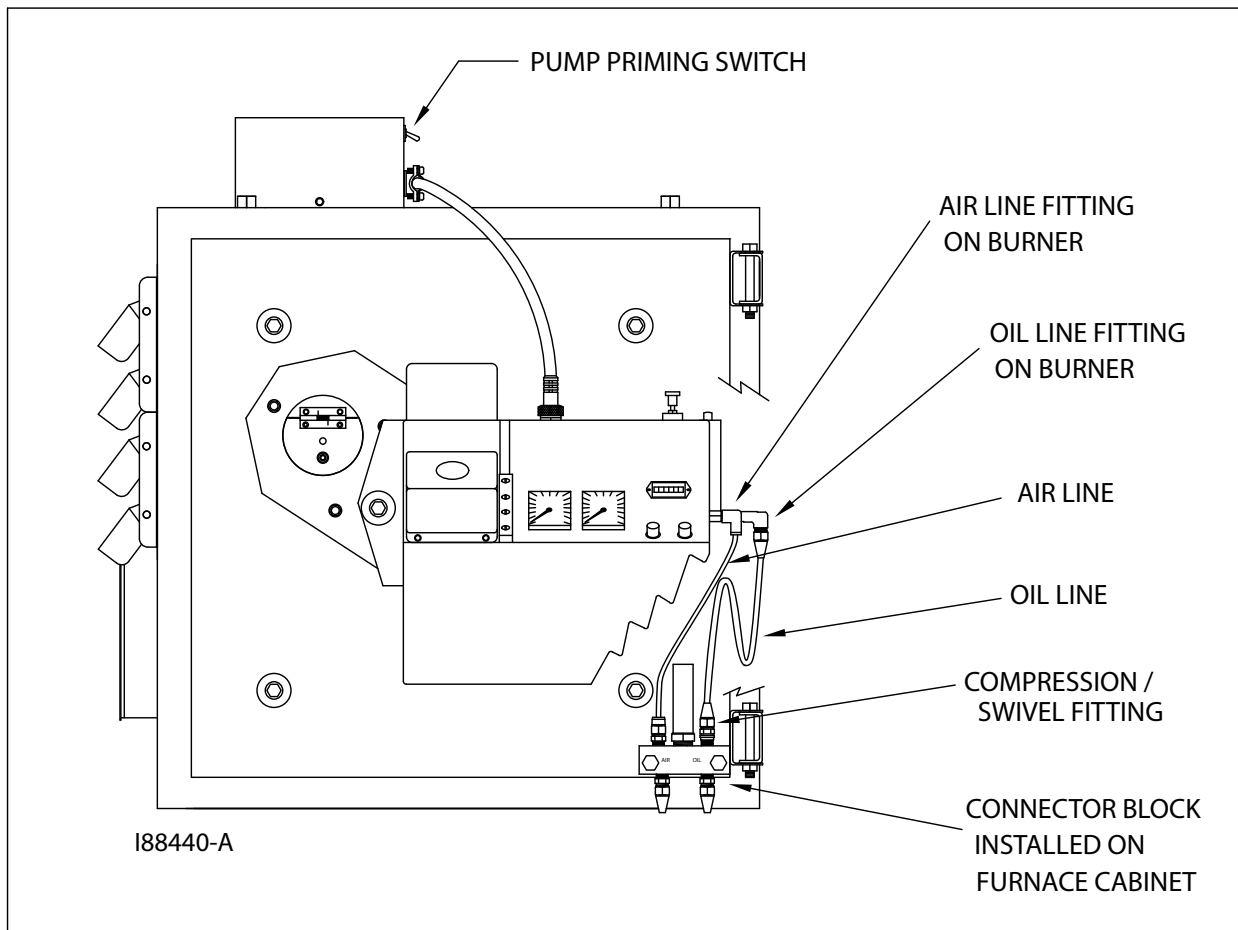

Figure 3M - Installation of Connector Block, Oil Line and Air Line (Front View)
NOTE: You may also check the positioning of the oil line according to Figure 3M which provides a larger front view of the connector block assembly.
2. Refer to Figure 3M. Push the air line tubing into the swivel fitting on the connector block until the tubing bottoms out in the fitting.